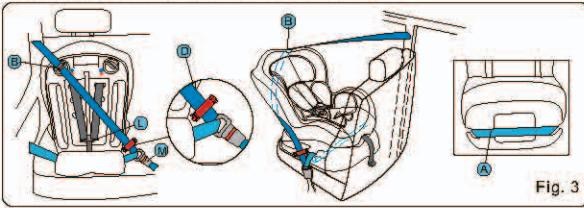

Fig. 3
Step 2. The seat must always be rear facing (Fig. 3). If your car has an airbag on the passenger seat, the safety seat must only be used on the rear seat.
Step 3. Secure the safety seat onto the car seat using the car seat belt (see Fig. 3)